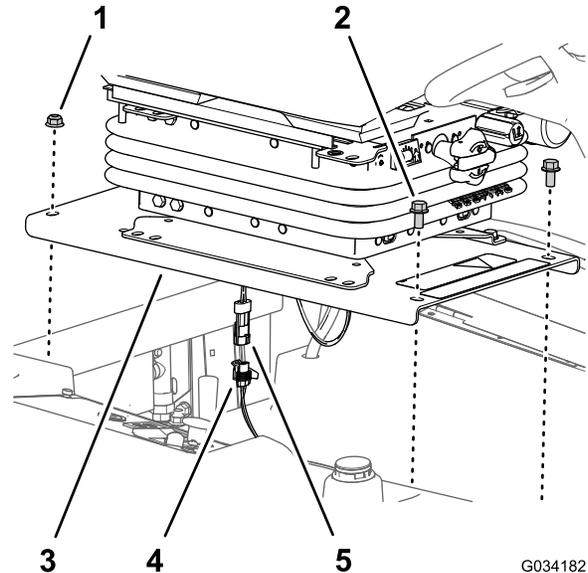

Figure 36
1. Remove the 2 flange-head bolts (3/8 x 3/4 inch) at the that secure the front of the seat plate to the chassis of the machine (Figure 36).
2. Remove the 2 flange locknuts (3/8 inch) at the that secure the back of the seat plate to the chassis of the machine (Figure 36)
4. Disconnect the 2-pin connector for the operator-presence switch harness from the 2-socket connector of the machine wire harness (Figure 36).
2. Connect the 2-pin connector for the operator-presence switch harness into the 2-socket connector of the machine wire harness; refer to Figure 36 .
3. Align the rear holes in the seat plate (Figure 36) with the 2 carriage bolts (3/8 x 1 inch) in the radiator channel.
4. Assemble the seat plate (Figure 36) to the carriage bolts with the 2 flange locknuts (3/8 inch) that you removed in step 2 of Installing the Seat and Seat Plate (page 42).
5. Align the front holes in the seat plate (Figure 36) with the threads of the tank rods.
6. Assemble the seat plate (Figure 36) to the tank rods with the 2 flange-head bolts (3/8 x 3/4 inch) that you removed in step 1 of Accessing the Fuse Block and Standard Control Module (page 51).